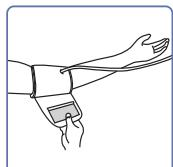

Fig. 4
- Pull the cuff so that the top and bottom edges are tightened around your arm (Fig. 4).